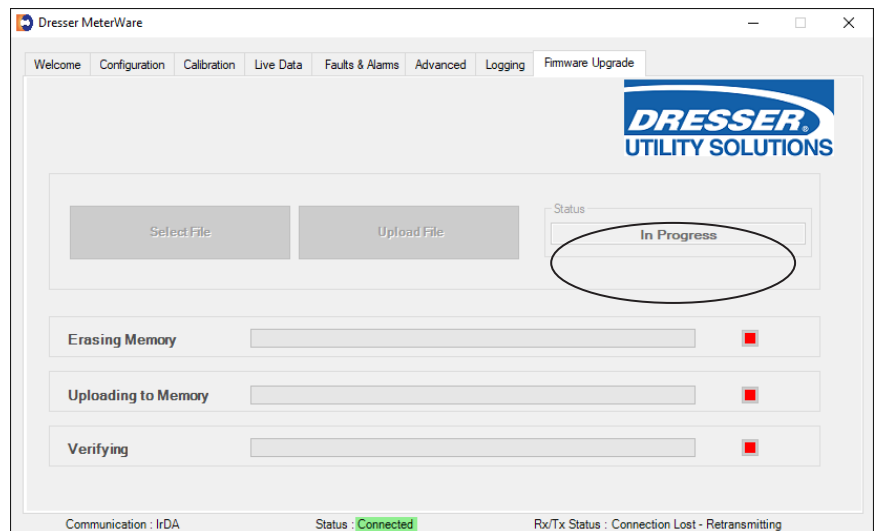

Figure 12.6 Example - MeterWare software showing In Progress status
- In the **Status** box on the Firmware Upgrade screen, the message **In Progress** will appear. Refer to Figure 12.6 Example.